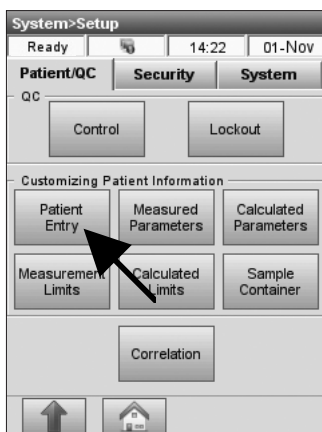

Fig. 3-15 Select Patient Entry
- On the **<Patient/QC>** tab, press **<Patient Entry>** (Fig. 3-15).